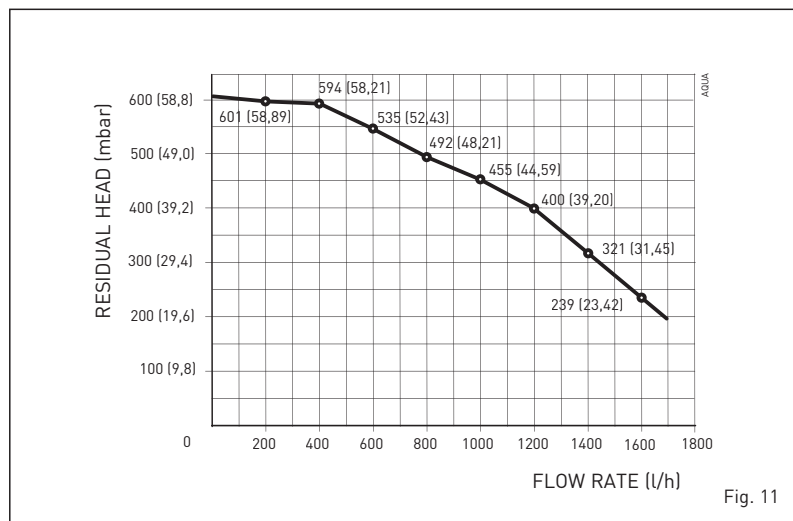

Fig. 11
3.2 SYSTEM AVAILABLE HEAD (fig. 11)
The head available for the heating plant is shown as a function of the flow in graph in fig. 11.
3.3 Pump high efficiency diagnose and remedy (fig. 11/a)